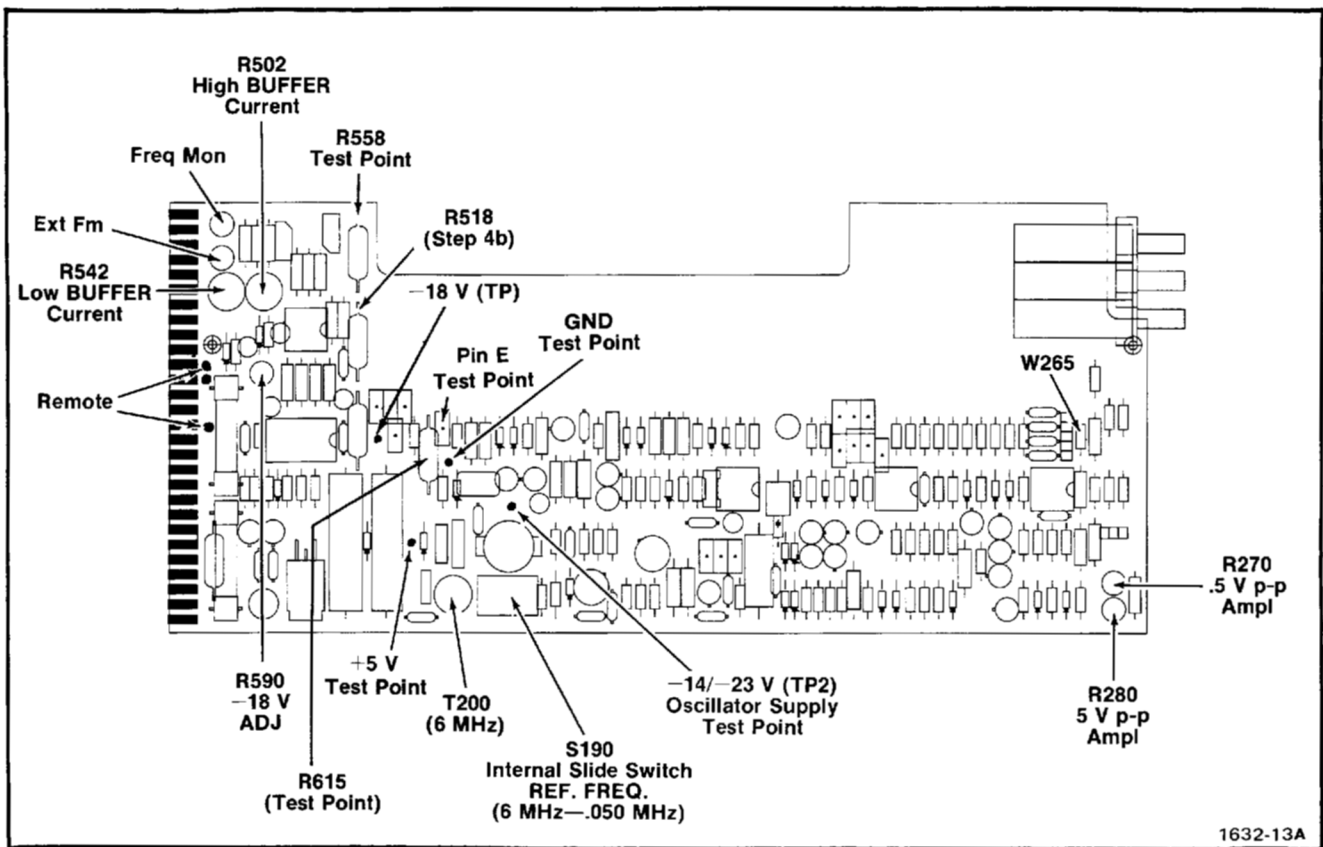
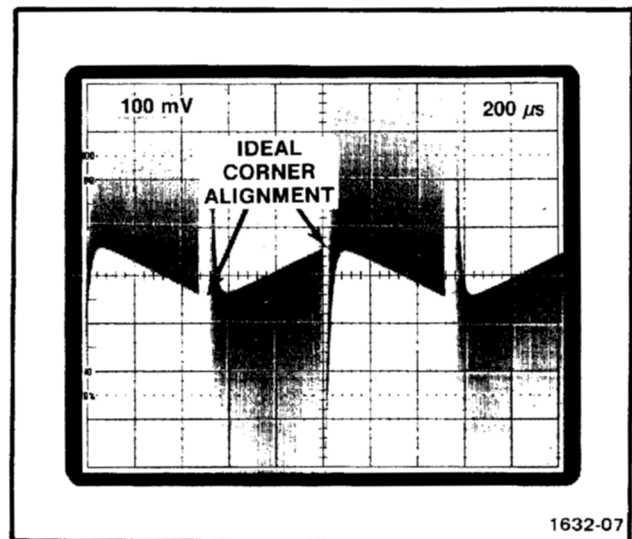
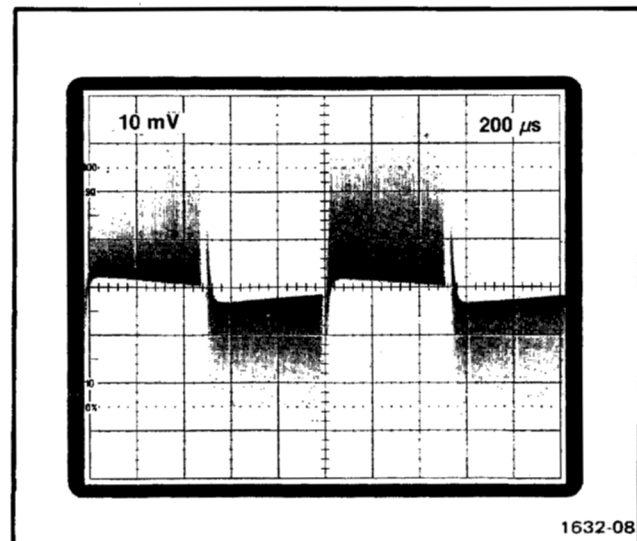

Fig. 3-1. Location of test points, connectors, and adjustments on main circuit board.
Fig. 3-2. Display of complex waveform (idealized) with 5 volt reference amplitude at 0.05 MHz, properly set.
Fig. 3-3. Display of complex waveform (idealized) with 0.5 volt reference amplitude at 0.05 MHz, properly set.
a. Connect the digital voltmeter between the -18 V test point and Gnd test point on the Main circuit board. See Fig. 3-1 for voltage test point location.
c. Adjust—-18 V adj, R590, for a meter reading of 18 volts. See Fig. 3-1 for adjustment location.
a. Connect the digital voltmeter between the +5 V test point and Gnd test point on the Main circuit board. See Fig. 3-1 for voltage test point location.
a. Connect the digital voltmeter between the -14/-23 V (TP2) test point and Gnd test point on the Main circuit board. See Fig. 3-1 for voltage test point location.
a. Connect the digital voltmeter across R615. See Fig. 3-1 for location.
b. Connect a $330\ \Omega$, 1 W resistor between the $-14/-23\text{ V}$ (TP2) testpoint and Gnd test point on the Main circuit board. See Fig. 3-1 for location.
a. Connect the digital voltmeter between Pin E test point and Gnd test point on the Main circuit board. See Fig. 3-1 for location.
f. Set the SG 504 internal slide switch, S190, to the 6 MHz position. See Fig. 3-1 for switch location.
d. Set the time-base triggering controls for a stable display; a crt display similar to Fig. 3-2 is obtained.
e. Adjust—5 V P-P Ampl. R280, so the corners of the idealized waveform are aligned as illustrated in Fig. 3-2. See Fig. 3-1 for adjustment location.
i. Set the time-base triggering controls for a stable display; a crt display similar to Fig. 3-3 is obtained.
j. Adjust—.5 V P-P Ampl, R270, so the corners of the idealized waveform are aligned as illustrated in Fig. 3-3. See Fig. 3-1 for adjustment location.
g. Connect the digital voltmeter between R558 test point (top of resistor) and Gnd test point on the Main circuit board. See Fig. 3-1 for test point location.
i. Disconnect the positive lead of the digital voltmeter from R558 test point and connect it to $-14/-23$ V (TP2) test point. See Fig. 3-1 for test point location.
f. Connect the digital voltmeter between R518 test point (top of resistor) and Gnd test point on the Main circuit board. See Fig. 3-1 for test point location.
k. Disconnect the positive lead of the digital voltmeter from R518 test point and connect it to $-14/-23$ V (TP2) test point. See Fig. 3-1 for test point location.
o. Disconnect the digital voltmeter and reconnect it across R615. See Fig. 3-1 for location.